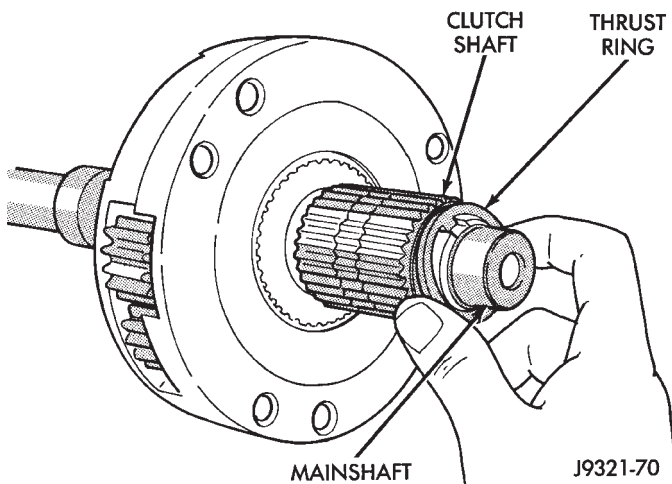

Fig. 78 Installing Clutch Shaft Thrust Ring
(16) Install thrust ring on end of mainshaft (Fig. 78). Be sure notch on ring seats in notch in shaft.